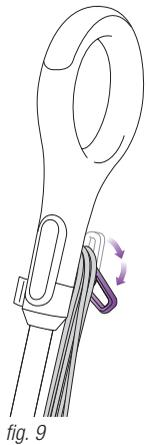

fig. 9
- 1 Twist the Quick-Release Cord Holder to unwrap the power cord completely (fig. 9). Plug into an electrical outlet. The blue light will illuminate. It takes approximately 30 seconds for the Steam Mop to heat up.